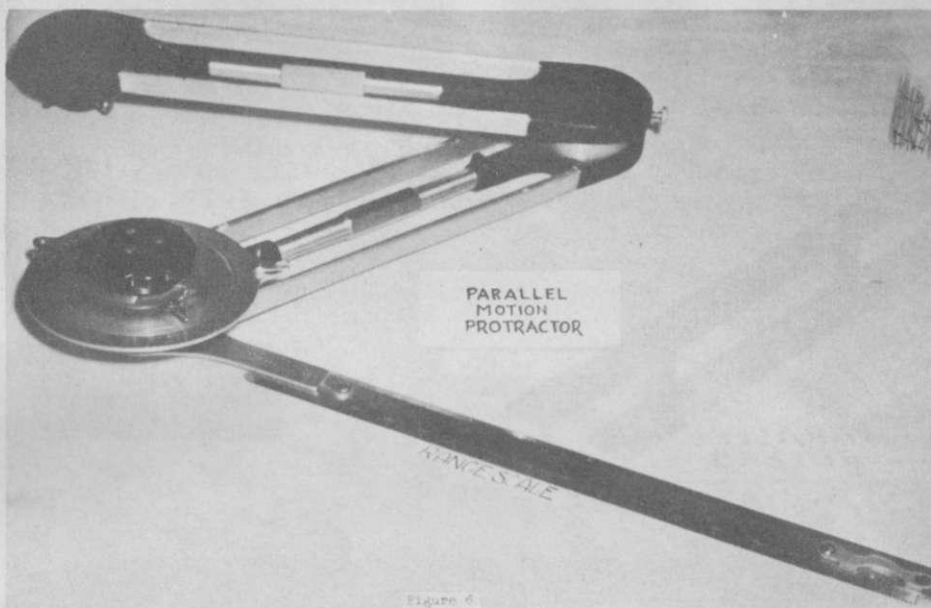

Figure 6
- (e) *The Parallel Motion Protractor (Universal Drafting Machine)* (See Figure 6) is a protractor carried by a parallel-motion linkage which is fastened to the upper edge of the chart board. The linkage permits the movement of the protractor to any part of the chart without loss of orientation. Therefore, the instrument affords a great convenience in laying off a course or bearing from any chosen point and in the parallel transfer of a straight line to any required position. The graduated protractor rim or compass rose can be clamped as desired, and hence oriented to coincide with the North and South direction of the chart.